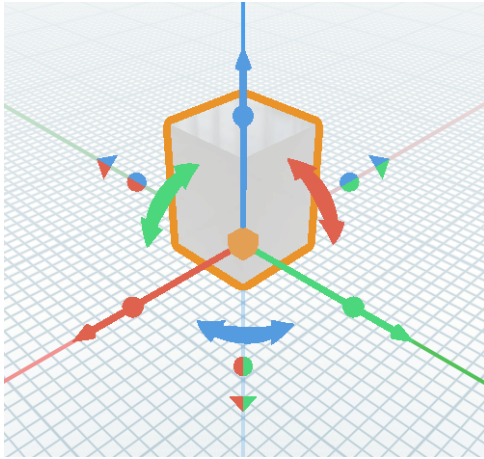

Figure 46 – GIZMO manipulators.
- rotate, move and scale a shape along three axes and in three planes when perspective view is active (Figure 46);
The axes of the manipulators are directed in the same way as the coordinate axes of the scene (Figure 46).